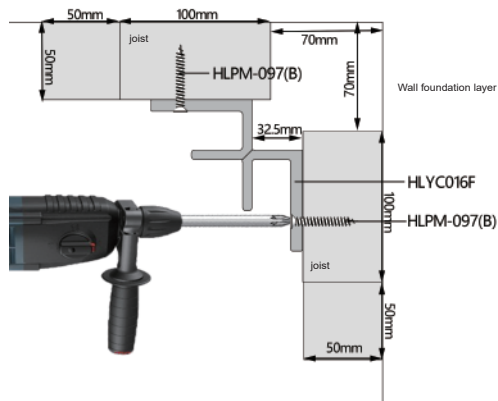

Fig2-2
1. Determine the size, HLYC-016F side from the joist edge distance of 32.5 mm. See Figure 2-2 for details.